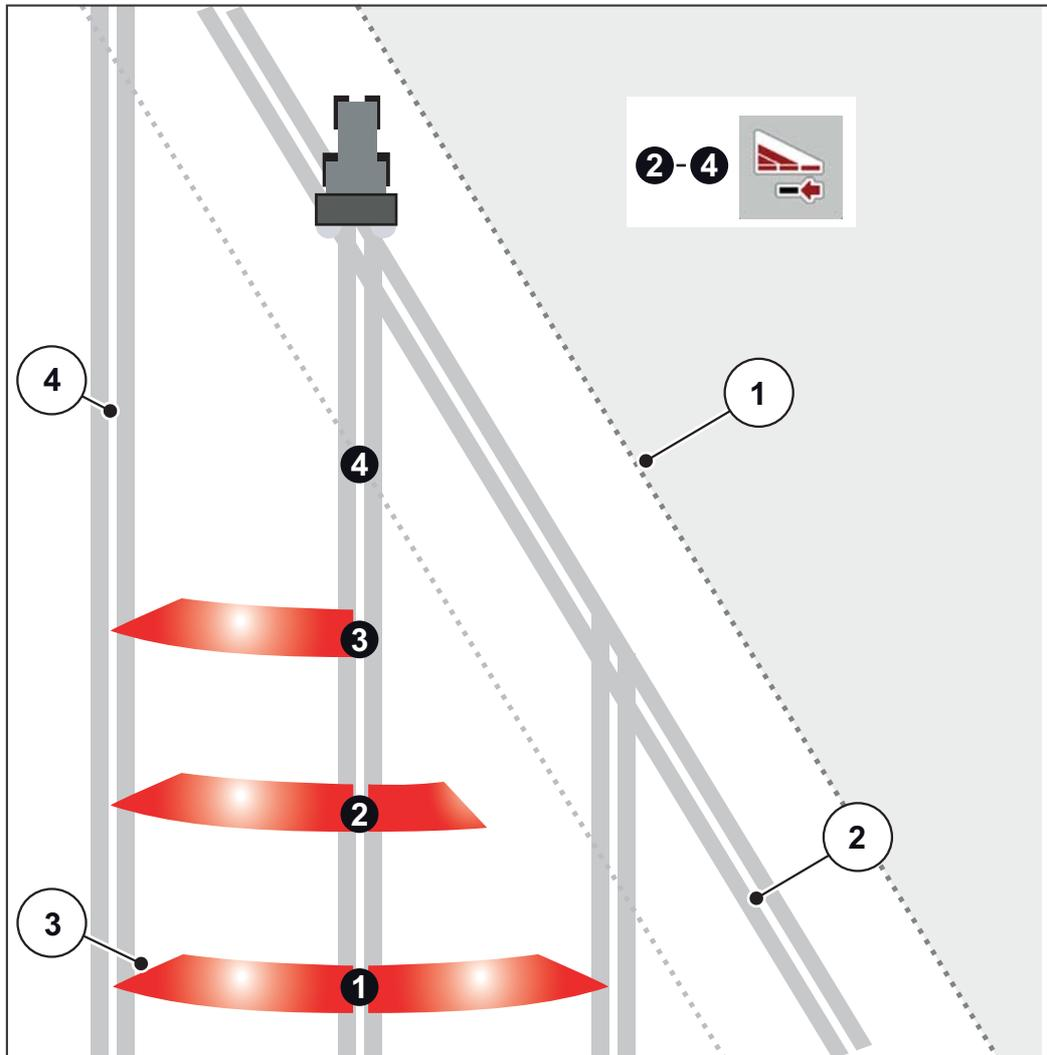

Figure 5.3: Automatic section control (AXIS-M 20.2)
- Section control is possible from the outside to the inside. See Figure 5.3.